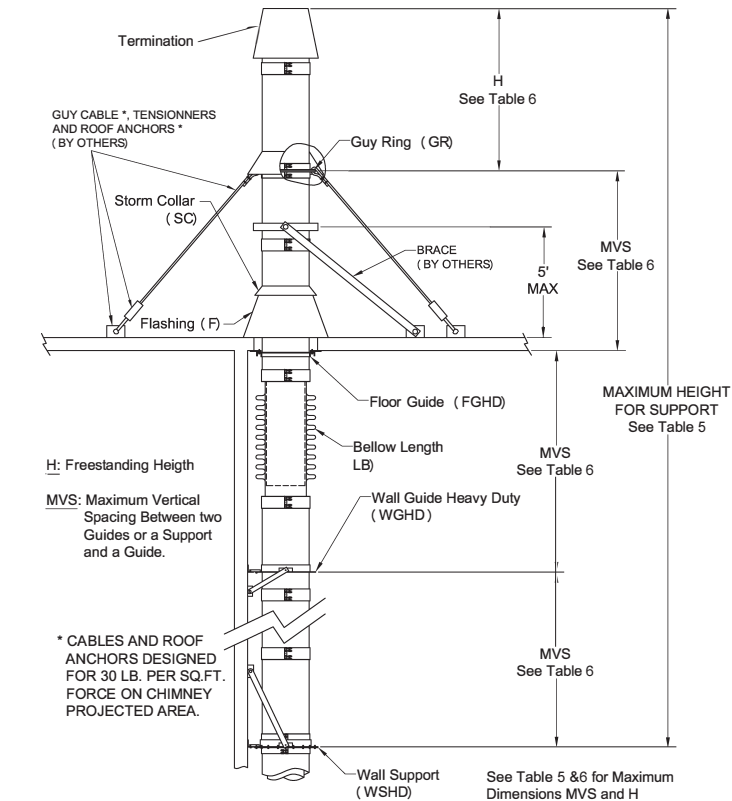

Figure 3 - Maximum Supported Height
- Supports and guiding methods and installation are described in **SECTION E-SUPPORTS**. Certain limitations apply for proper installation of supports and guides. **See Tables 5, 6, 7 and Figures 3 and 4.**
- 1. Proper guying and bracing is essential for part of the chimney that extends above the roof or parapet wall. The chimney at this point is subject to wind conditions and needs special attention for proper stabilization. **See Figure 3.**